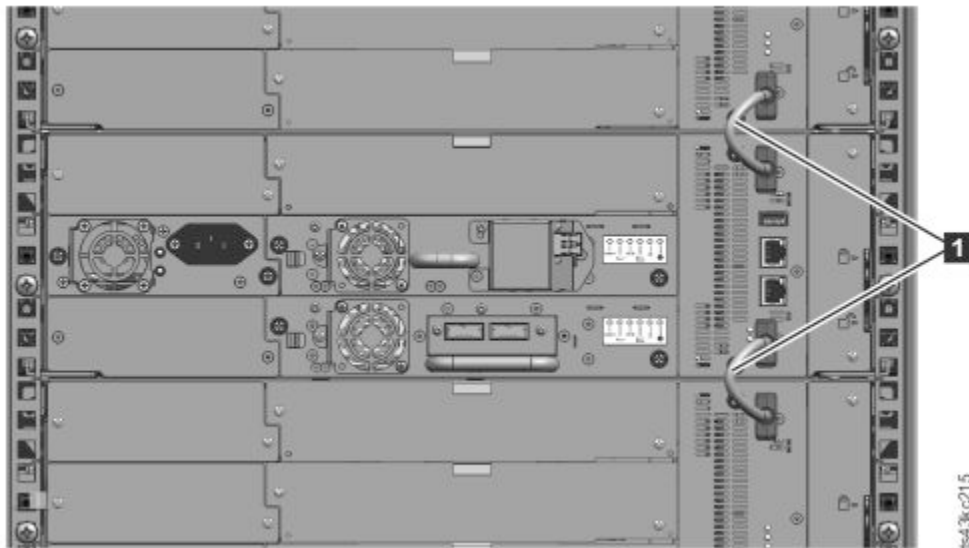

Figure 41. Connected modules
5. From the back of the library, connect the modules of each pair to its adjacent module by using the expansion interconnect cables (**1**) as shown in Figure 41 on page 53.